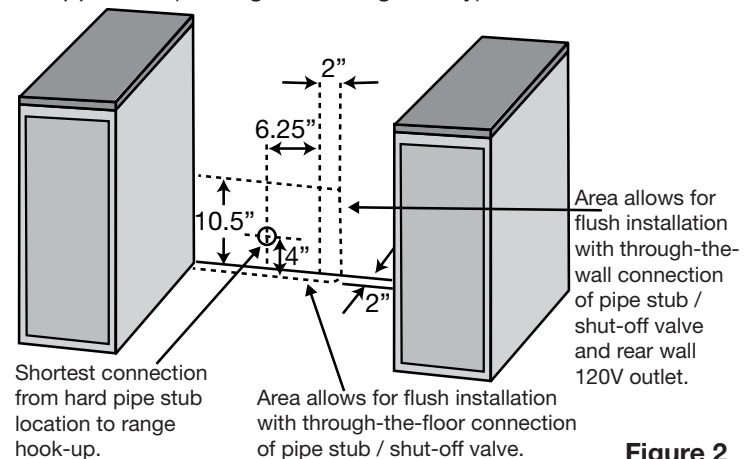

Figure 2
- Gas supply should be located near the opening for this appliance (see Figure 2, ranges only):